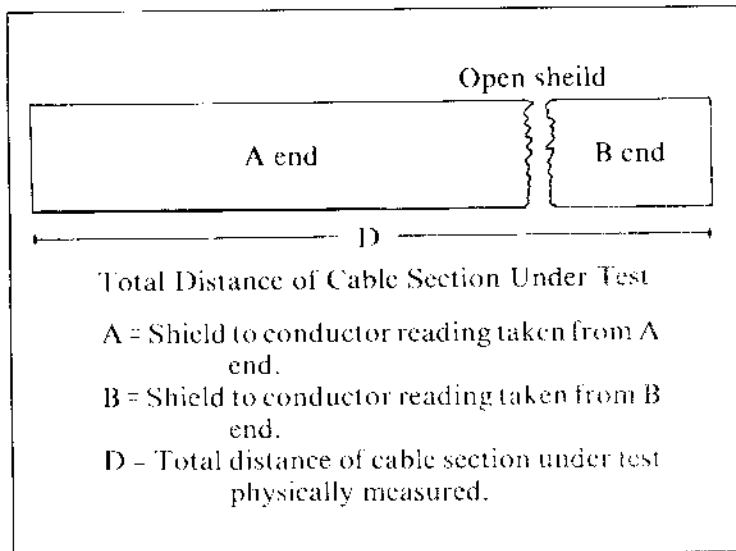

Figure 3.
- Use the formula below to find the distance to the open shield. See figure 3 page 4.